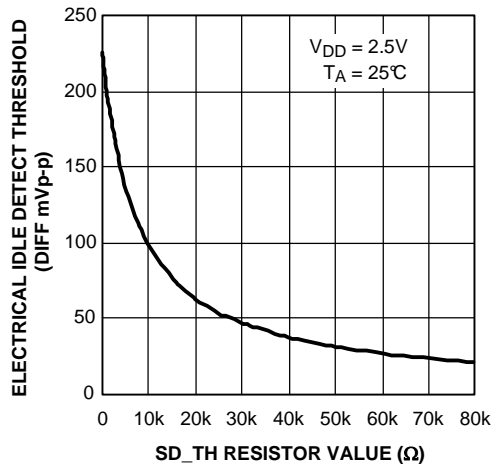

Figure 6. Typical Idle Threshold vs. SD_TH resistor value
(1) SD_TH resistor value can be set from 0 through 80k ohms to achieve desired idle detect threshold, see Figure 6